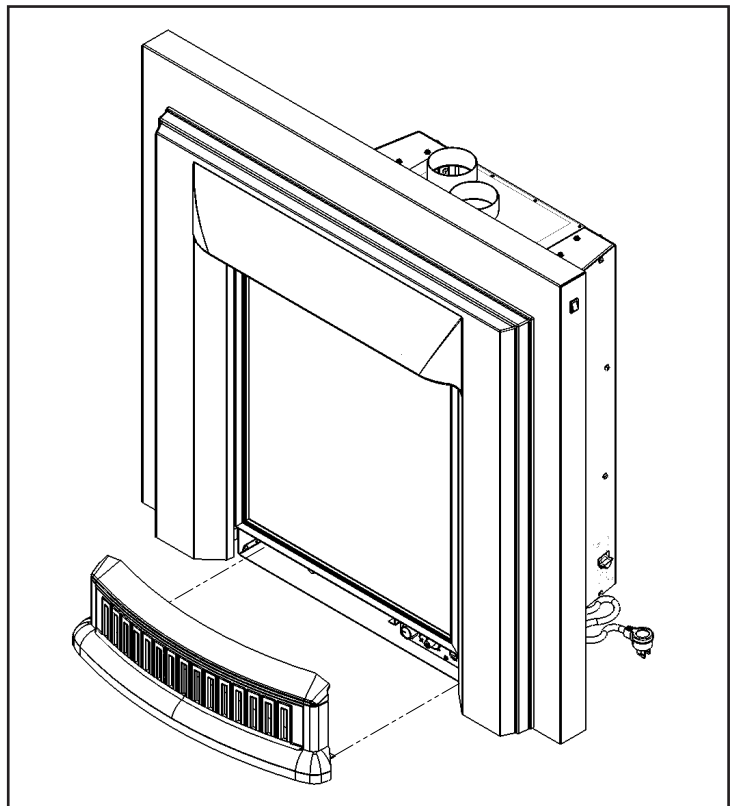

Figure 7: Fender Install
**Step 8:** Install the Fender by sliding it into the fireplace (shown in Figure 7).